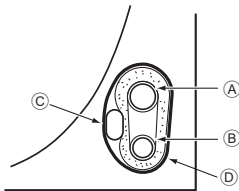

Fig. 4-5
4.5.1. Storing in the piping space of the unit (Fig. 4-5)